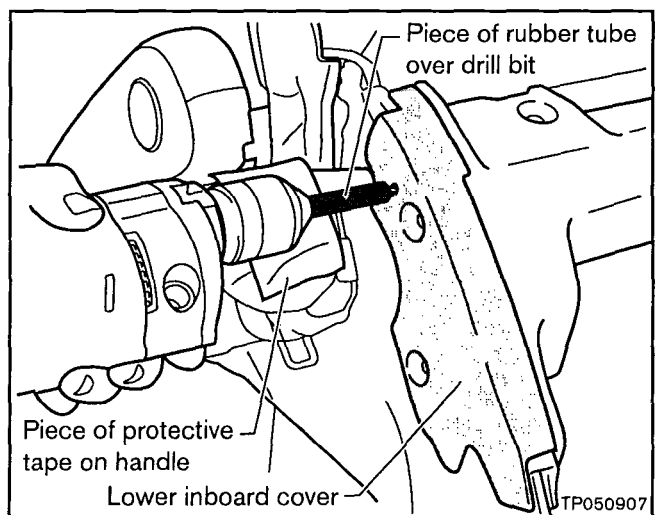

Figure 6
- b. Carefully drill a 4.7mm (3/16") hole in the lower inboard cover (see Figure 6).
- To prevent this, install a piece of rubber tubing (or equiv. drill stop) over the drill bit so that only 10mm (13/32") of the bit is exposed. See Figure 6.